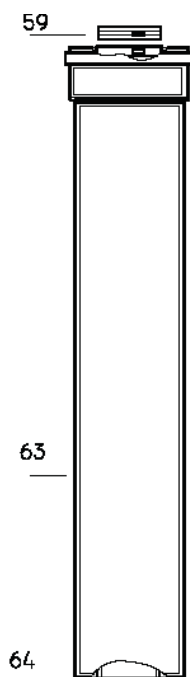

Fig.43
- Position the flue extension and fix the securing screw on the flue adaptor appliance (Fig. 43) item 66, and ensure that the gasket is correctly fitted.
Fit a roof flashing sleeve (7 Fig. 43) to the roof, available from Ravenheat Manufacturing.
- Position the flue extension and fix the securing screw on the flue adaptor on the appliance (Fig. 43) item 66, and ensure that the gasket is correctly fitted.